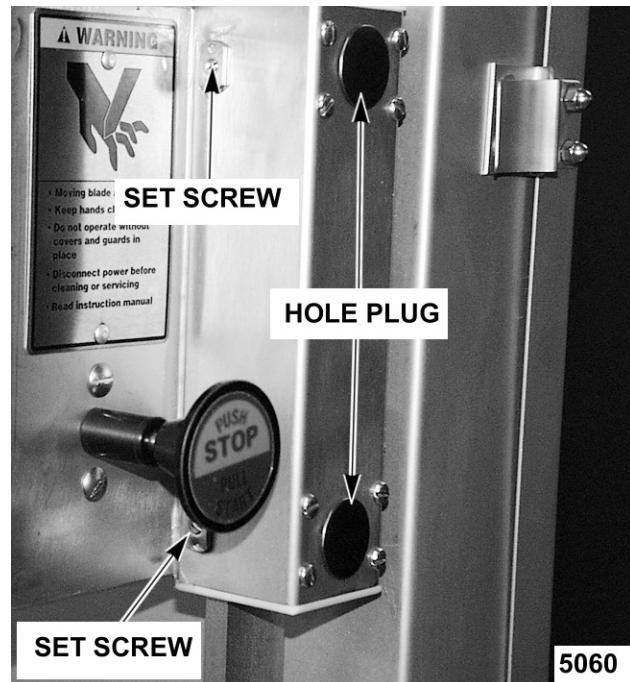

Fig. 20
1. Loosen the two set screws on the side of the slide bar housing (Fig. 20).
2. Remove the two hole plugs (Fig. 20) on the front of the slide bar housing.
4. Raise the slide bar and slowly tighten the two side set screws (Fig. 20) until the slide bar is just held in place.
7. Reinstall the hole plugs (Fig. 20).